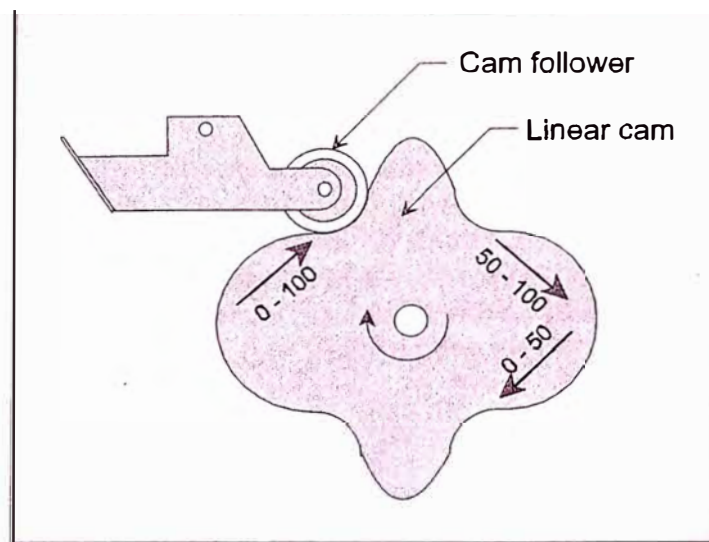

Figure 1-5. IGV linear cam
4. The feed back cam can now be installed or checked for correctness and the positioner can be stroked. The shape of the cam in the linkage IGV is different than the standard butterfly valve or cable driven IGV positioner cam. Figure 1-5 is a representation of the linkage IGV linear action cam. This cam is set on the 0 to 100 scale in the position that causes the cam to raise as input signal increases.